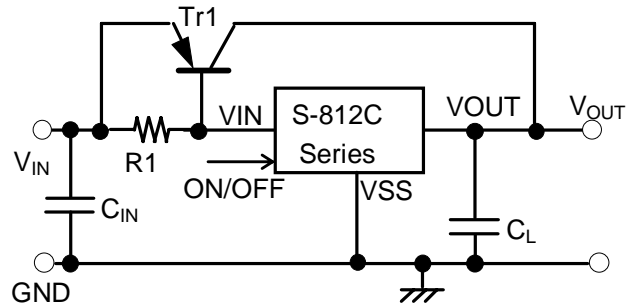

Figure 11 Output Current Boost Circuit
As shown in Figure 11, the output current can be boosted by externally attaching a PNP transistor. The S-812C controls the base current of the PNP transistor so that the output voltage V_{OUT} becomes the voltage specified in the S-812C if the sufficient base-emitter voltage V_{BE} to turn on the PNP transistor is obtained between input voltage V_{IN} and S-812C power source pin V_{IN} .
- As the transient response characteristics of the circuit shown in figure 11 is not enough in some applications, evaluation for output variation due to power-on, power line variation and load variation in actual condition is needed before massproduction.